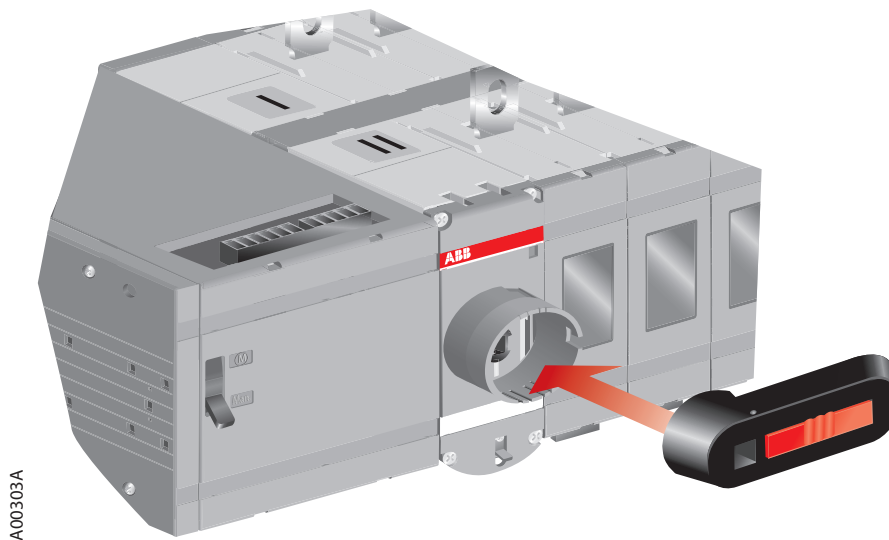

Fig. 6-6 Attaching the handle
2. Attach the handle by pressing it to the switch panel until it clicks into place. You can attach the handle in all positions, see Figure 6-6.